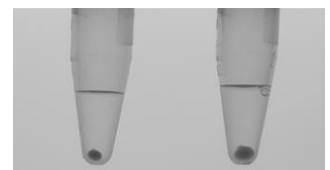

Fig. 1: recommended pellet sizes
- Use 50 - 200 µL to reach a pellet size of app. 2 mm in diameter after centrifugation (see fig. 1). Proceed to step 2.
3. Control the pellet sizes, which is the cell material, of your samples. The pellet size should not exceed 2 mm in diameter (see fig. 1).